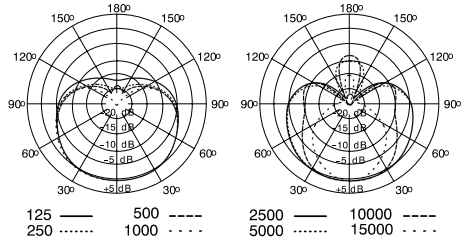
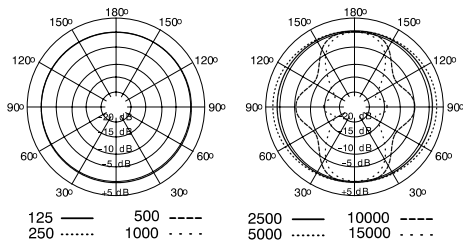
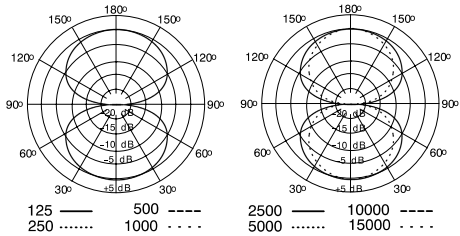

FIGURE 5. TYPICAL CARDIOID POLAR PATTERN
FIGURE 7. TYPICAL OMNIDIRECTIONAL POLAR PATTERN
FIGURE 9. TYPICAL BIDIRECTIONAL POLAR PATTERNS
**Cardioid.** Picks up sounds directly in front of the microphone and is least sensitive to those in back. Cardioid is the most commonly used pattern in studio recording and live-sound applications. See Figure 5.
**Omnidirectional.** Picks up sound equally from all directions. This pattern is best for picking up room ambience and miking several sources at once, such as a choir or ensemble. Omnidirectional patterns do not exhibit proximity effect. See Figure 7.
**Bidirectional.** Picks up equally from the front and back of the microphone while rejecting sounds from the sides. Bidirectional is often for stereo recording (such as mid-side and Blumlein techniques). See Figure 9.
| Directional Polar Patterns | Cardioid (See Figure 5) | Omnidirectional (See Figure 7) | Bidirectional (See Figure 9) |